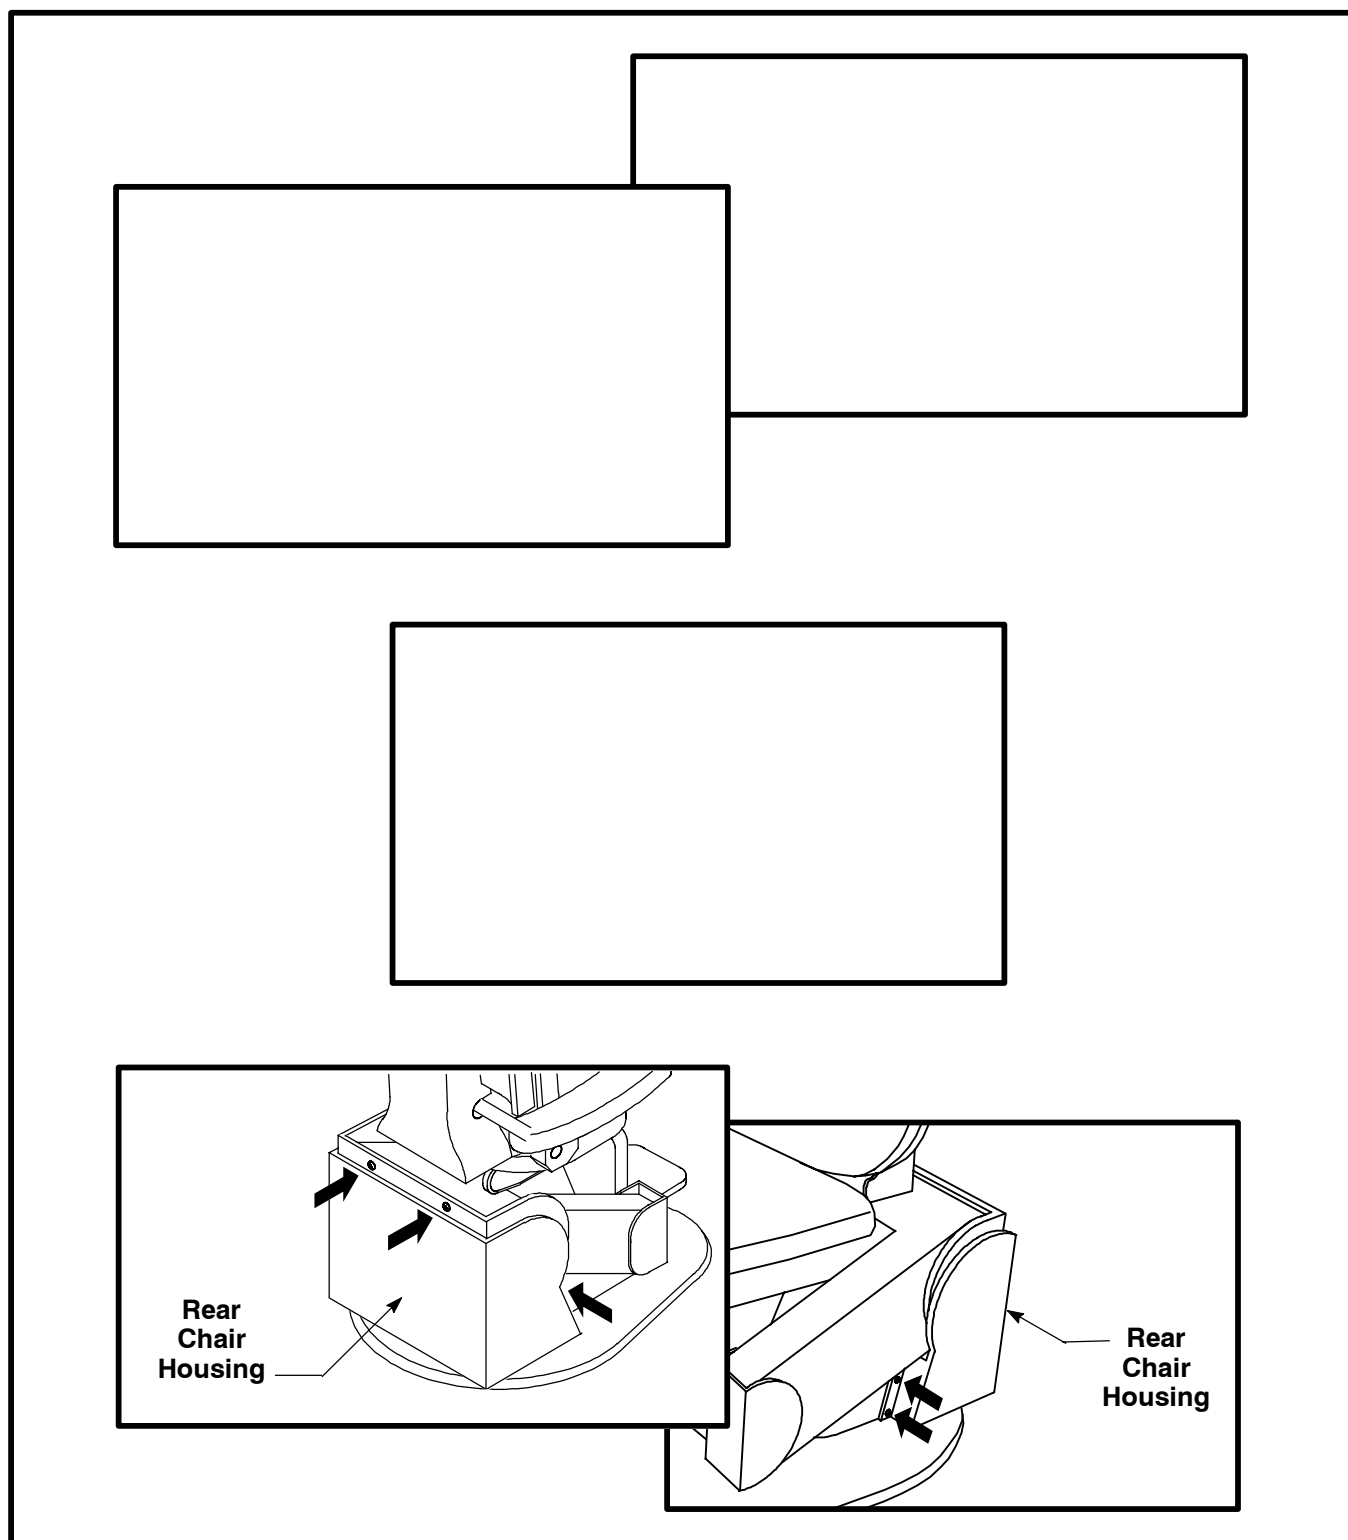

Figure 4-7. Removing Plastic Shrouds
3. Remove the six protective plastic caps, then use the No. 2 Phillips screwdriver to remove the six screws from the front and rear chair housing. Refer to Figure 4-7.